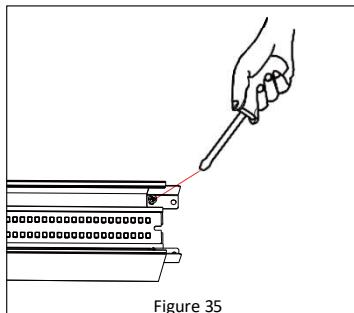

Figure 35
5. Tighten the screw on each baffle. *See Figure 35.*